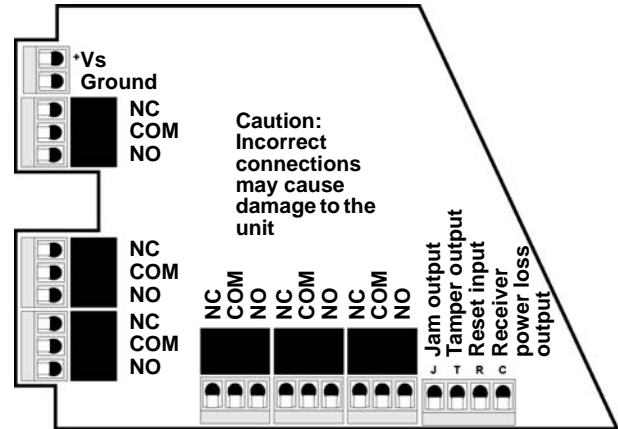

Figure 4 EN4216MR terminals
6. Connect a momentary switch to the reset input and ground (Figure 4, "EN4216MR terminals"). Must be configured for UL installations.
See Figure 4, "EN4216MR terminals" on page 2.	Line Power Loss